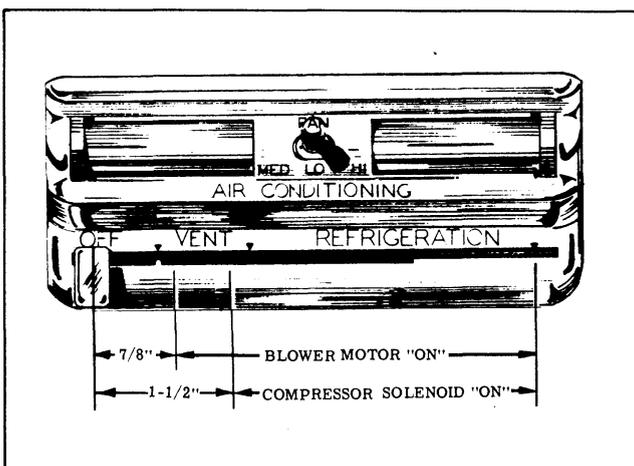

Fig. 14-18 Position for Switch Adjustments
4. Position control lever to BLOWER position. (See Fig. 14-18)
6. To check switch adjustment, move control to OFF position. Move control lever slowly to the right and compare control lever position when blower starts and compressor clutch engages with positions shown Fig. 14-18.